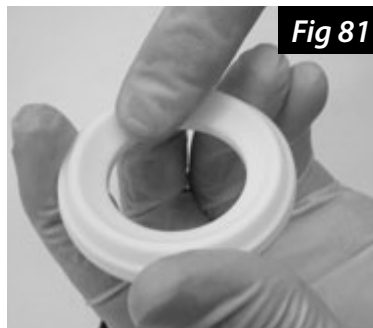

Fig 81
6. Apply a thin coat of vacuum grease around the body seal o-rings and place on the end caps as shown. Apply a thin coat of vacuum grease to the inner radius surface of each Teflon® seat (Fig 81).